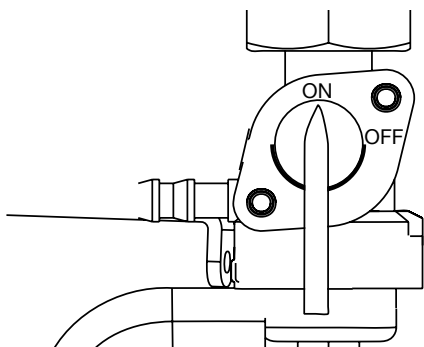

Figure 8 - Fuel Shut Off - ON
- ① 240/120V Main Circuit Breaker Operating Position
- ② 240/120V Main Circuit Breaker Tripped Position
- ③ 120V Circuit Breaker Operating Position
- ④ 120V Circuit Breaker Tripped Position
3. Move the fuel shut off valve to the ON position (see Figure 8 below).